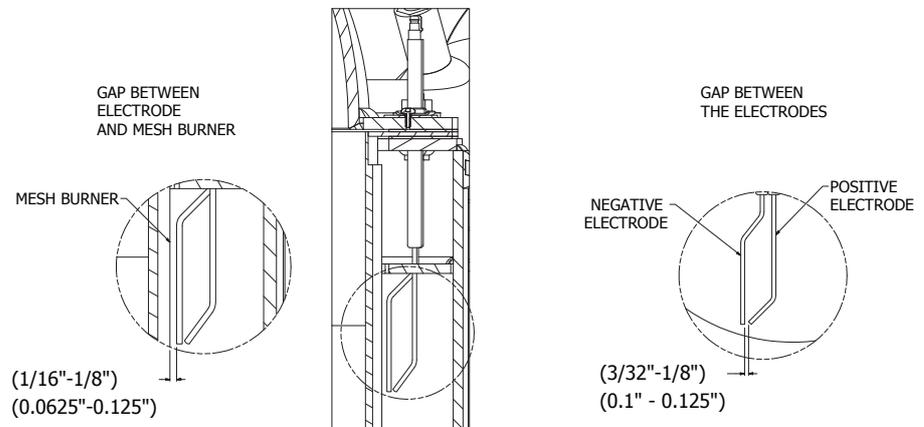

FIGURE 28 - IGNITOR GAP TOLERANCES
3. For re-installation or installation of a new ignitor, verify with calibrated calipers that there is a gap between electrodes greater than 0.100" (2.54 mm) and less than 0.125" (3.175 mm). See Figure 28.